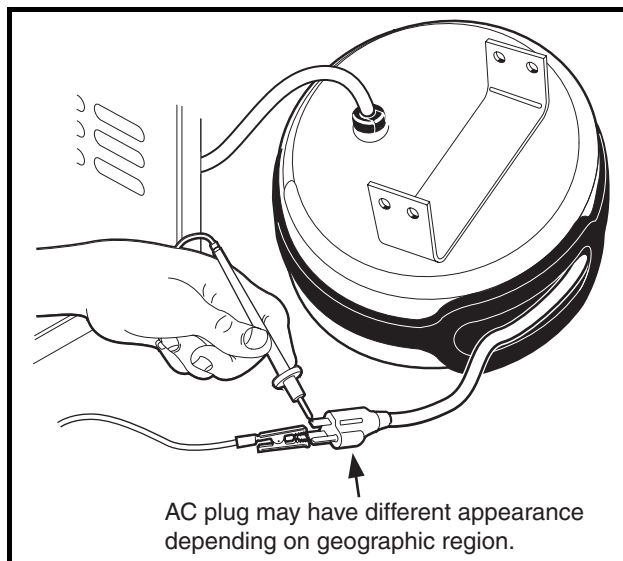

Figure 6-9 AC Circuit Continuity Test
- 5.4. With relay bypassed, there should be continuity across the AC cord blades (**Figure 6-9, Page 6-14**).